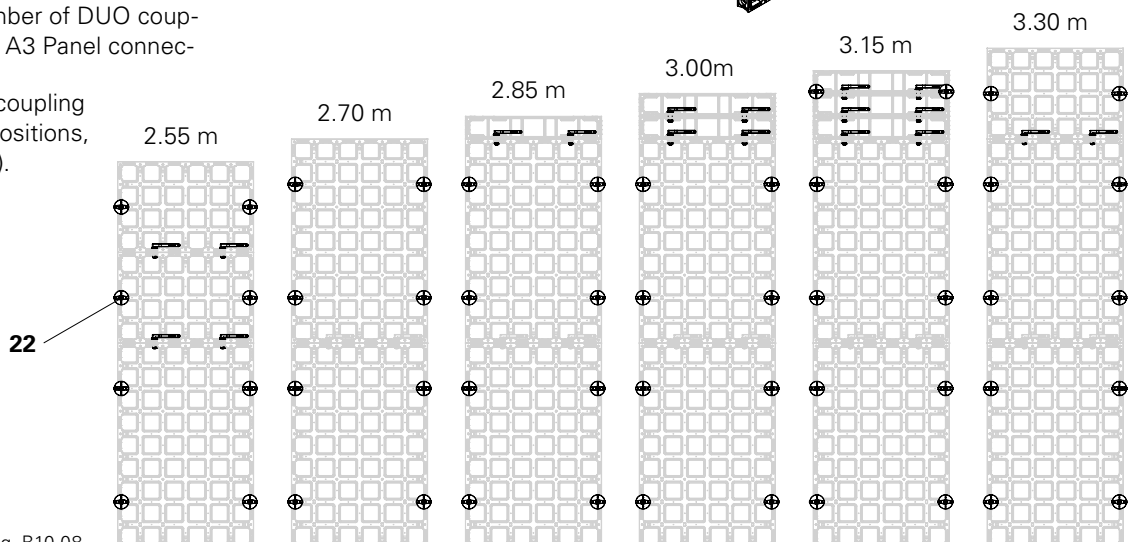

Fig. B10.08
(Fig. B10.08)
4. Install the DUO coupling tie (**22**). For tie positions, see (Fig. B10.08).